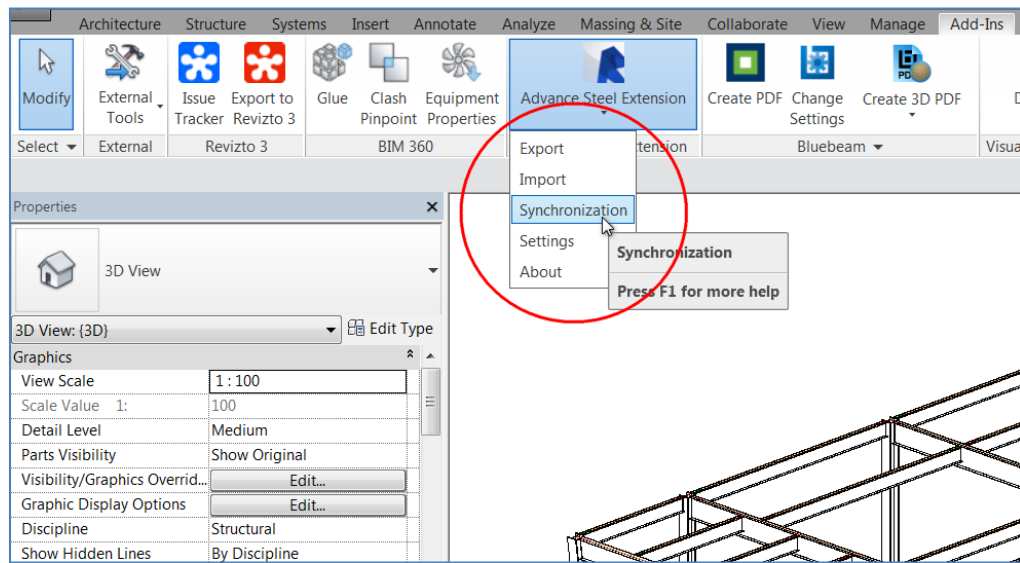

FIGURE 27: VALIDATING THE AUTODESK REVIT STRUCTURE AGAINST ADVANCE STEEL MODEL MODEL
1. In Autodesk Revit, from the **Add-Ins** ribbon tab > **Advance Steel Extension** ribbon panel, click **Synchronization**, as shown in Figure 27.